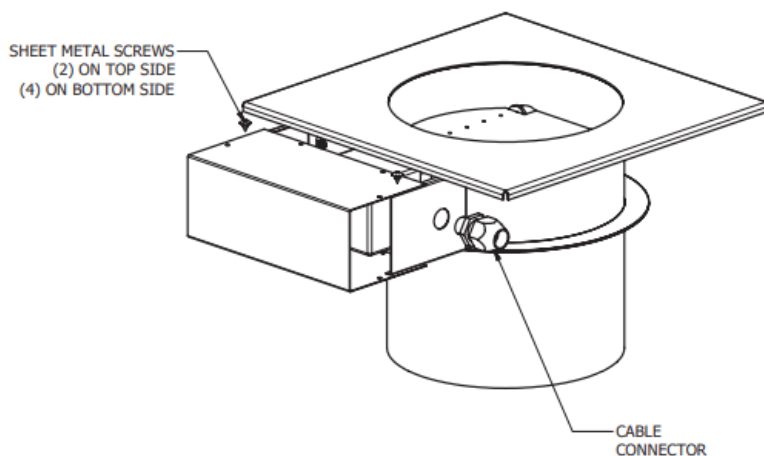
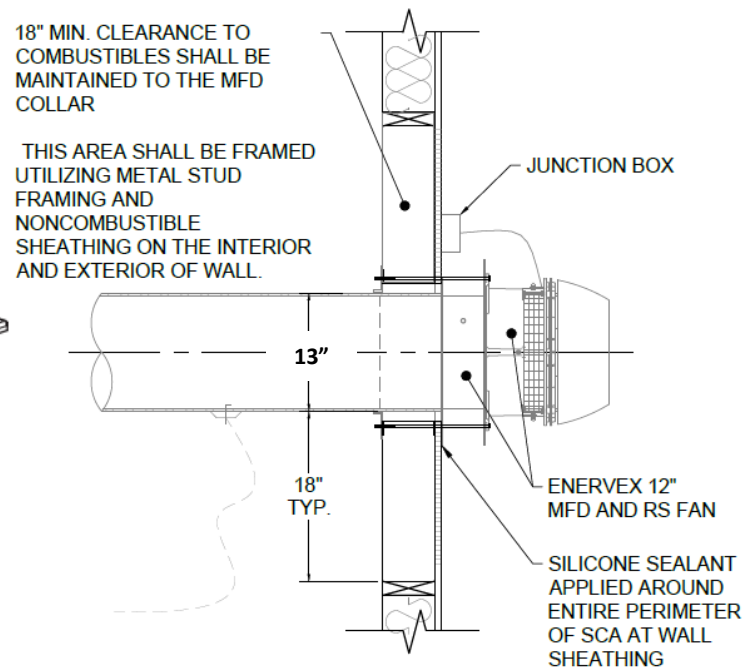

FIGURE 30
FIGURE 31
1. Before installing the MFD on the chimney, a power cable should be wired to the actuator and the actuator cover should be secured (**Figure 30**).
3. Use (6) of the included sheet metal screws to secure the actuator cover to the MFD. Once secure, apply a bead of silicone around the seams of the cover.
4. Mount the MFD outdoors at the end of a steel chimney. Slide the collar of the MFD into the steel chimney until the damper rests on the stop flange. Sheet metal screws may be installed around the collar into the chimney for additional support. Fasten the MFD to noncombustible framing with metal fasteners or bolts with locking nuts (**Figure 31**)